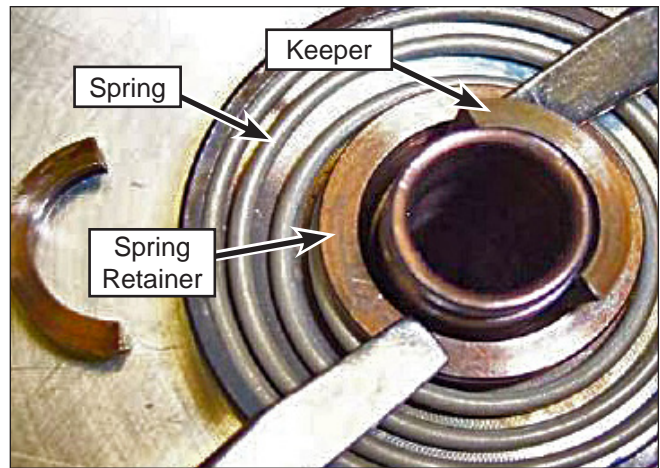

Figure 84: Spring Retainer Removal.
5. Press down on the valve spring retainer and slide the spring keepers out from the assembly (Figure 84).